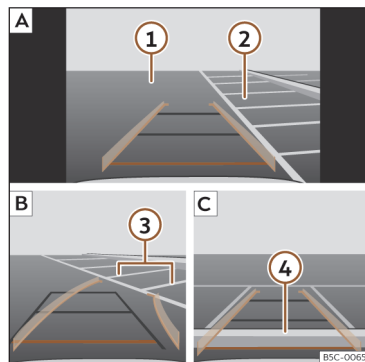

Fig. 145 Display on the infotainment system screen: parking with the reverse assistant.
Key to >>> **Fig. 145:**
- Stop the vehicle in front of the parking space >>> **Fig. 145**  .